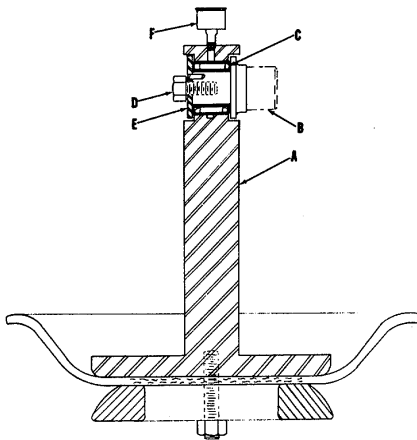

FIGURE 5
- B. Remove two brass nuts with washers (R) and two brass machine screws (K). Washer (L) and weight (P) may be pulled off rubber flap valve (N).
- C. Replace flap valve (N). Assemble items (K) thru (R) and place on pump body over the studs. Place valve body on pump over studs and secure with the 5/8 " hex nuts.
- #### 21. Connecting Rod Needle Bearing Repair (Fig. 5)
Reference for Fig. 5